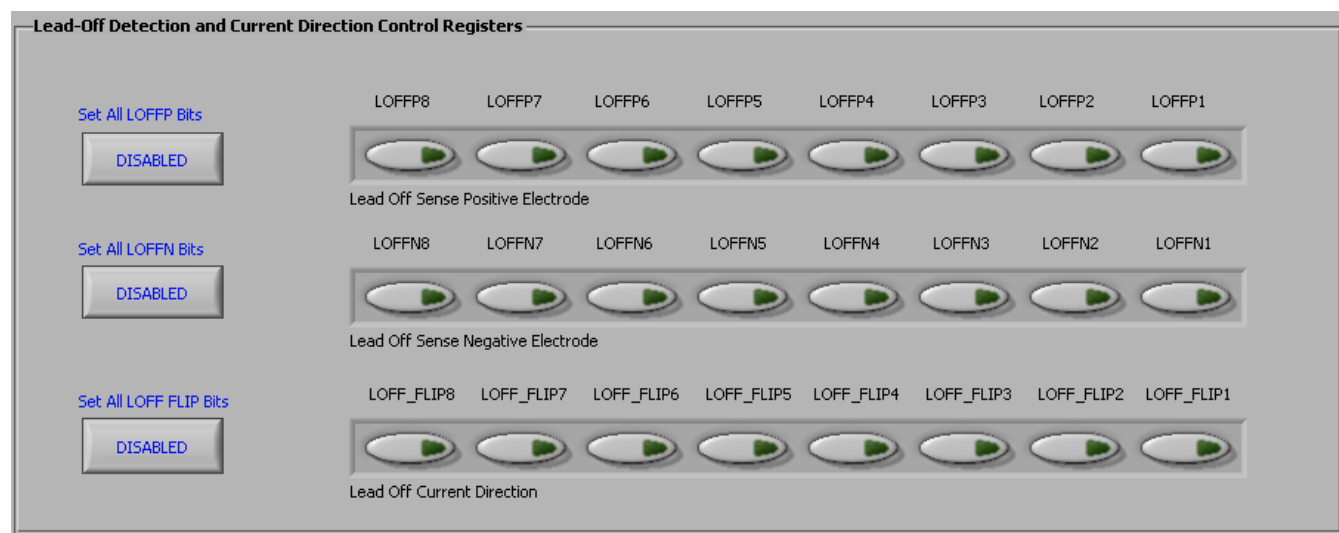

Figure 41. Setting the LOFF Register Bits
- Step 2. Choose the lead-off scheme by setting the respective bits in the LOFF register (in the LOFF control tab). Select the *DC Lead-Off Detect, 6.25nA, Current Source* scheme, and set the comparator threshold to 95%. Select the appropriate inputs for lead-off detection by clicking the bits of the LOFF_SENSP and LOFF_SENSN Registers. The LOFF tab should appear as shown in Figure 41.